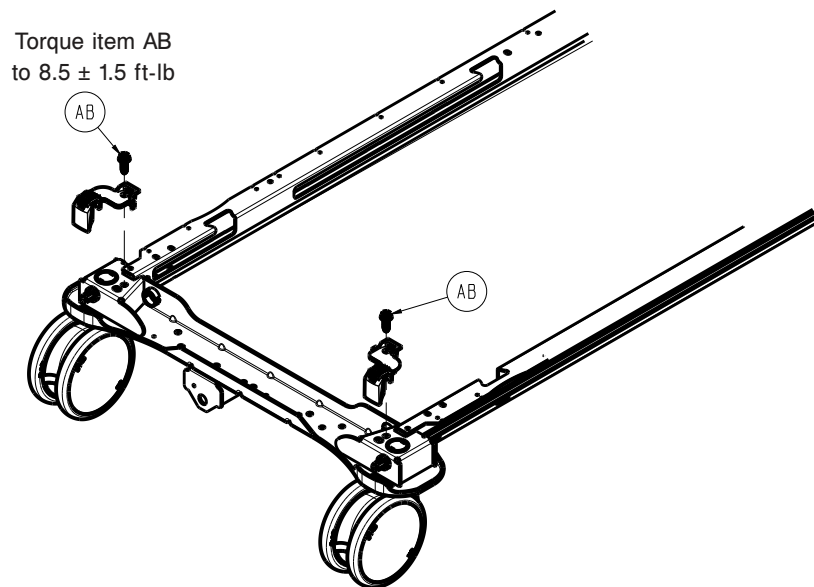

Figure 7 – Removing the caster
- Using a ratchet and 1/2" socket, remove the bolt (AB) and brake shaft retainer on the side of the caster (which must be replaced) on the head end and foot end of the brake shaft (above the caster) (Figure 7).
7. Using a ratchet and 1/2" socket, remove the bolt (AB) and brake shaft retainer on the side of the caster on the head end and foot end of the brake shaft (above the caster) (Figure 7).